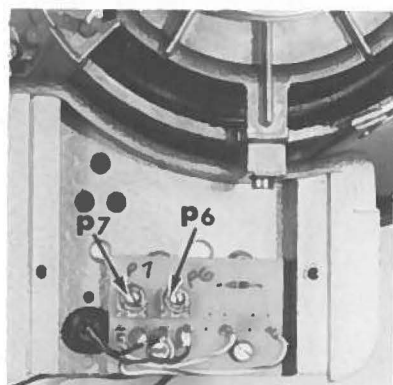

Fig. 25
Independent of motor rpm or pulley diameter, adjustable via potentiometer P1 (Fig. 25), should be adjusted to 200 RPM. Setting beyond this speed will lead to malfunctioning of thread trimmer mechanism.
Adjustment for the length of thread tension release is controlled via potentiometer P6 (Fig. 25). The potentiometer should be set so that the tension discs are open until the trim knife has finished cutting.
Adjustment for the presser foot signal after trimming is controlled via potentiometer P7 (Fig. 25) and should be adjusted so that the foot lifts after the thread wiper has returned to its rest position.
4. Now observe knife return and foot raising time. If presser foot raises too soon (before knife has returned and cut) or too late (after knife has cut) adjust P-7 on control box Fig. 25 so that foot comes up after knife has come to its at rest position.